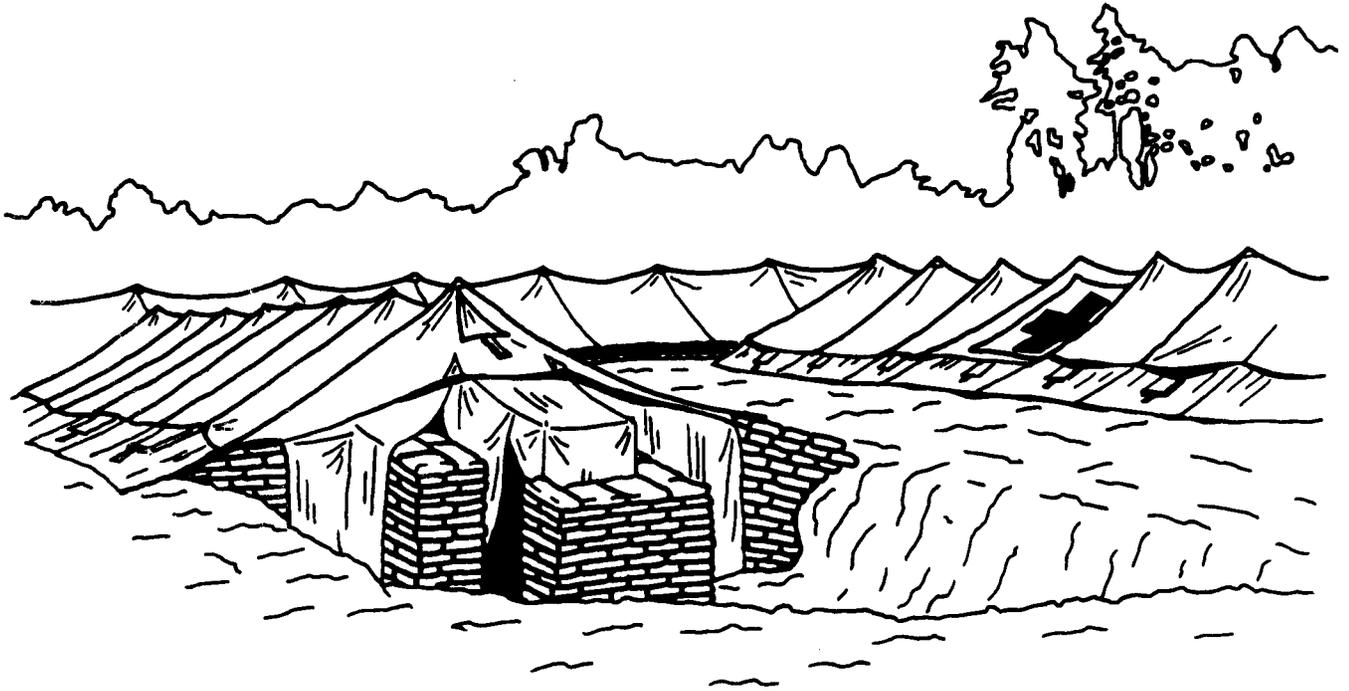

Figure B-3. Dug-in tents.
d. Dug-in tents (Figure B-3) for hospitals provide more comfort and require less movement than the dozer trench; however, they have two drawbacks. First, they offer far less radiation protection than the dozer trench, and second, they require considerably more engineer effort.